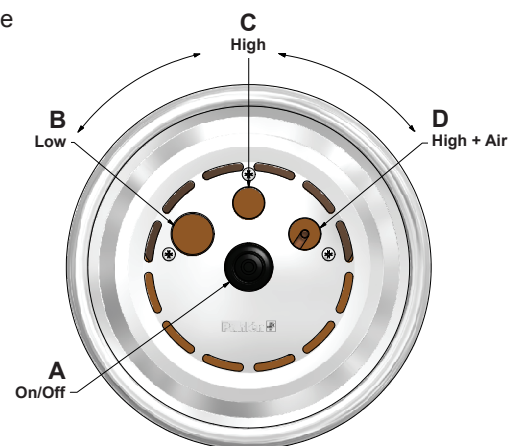

Figure 1.
8. Make sure that the pump's direction of rotations is consistent with that of the system. Open the valves. Completely fill the pump with water before starting it with the push-button (A fig.1) on the stainless steel front.
9. The front can be turned one step to the right or to the left to control the water flow and to have air mixed into the water jets, see fig. 1.
8. Make sure that the pump's direction of rotation is consistent with that of the system. Open the valves. Completely fill the pump with water before starting it with the push-button (A fig.1) on the stainless steel front.
The Jet Swim pump is started and stopped by air impulse via the pushbutton (A) on the stainless steel front (see fig.1).
To control the water flow and to have air mixed into the water jets: turn the front one step to the right or to the left (see fig. 1) :